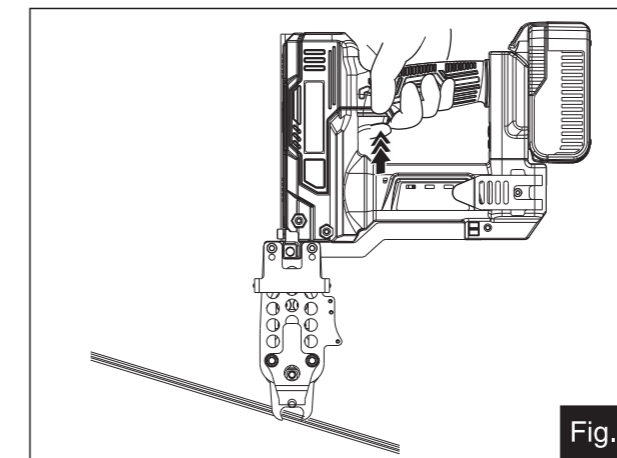

Fig.7
1. Install the battery and turn on the power Button (A).
2. Please align the clamp with the workpiece (See Fig.7), then pull the trigger to fire.
- 5.Press the Power Button (A) to turn off the power when finished.